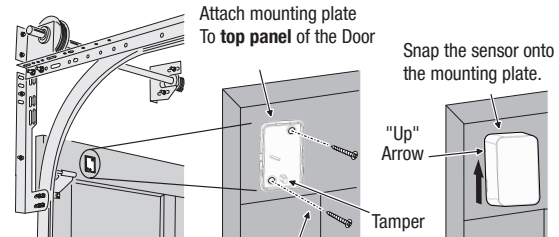

Figure 4. Sensor Location /Garage Door
**For Sectional Garage Door Installation:** The sensor should be mounted near the top of the top panel of the garage door as shown in Figure 4.